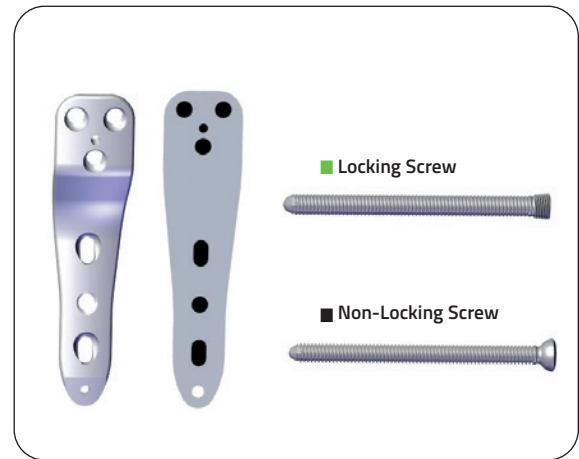

Fig. 5
**PRECAUTION:** Locking and non-locking screws must be used in the appropriate holes (Fig. 5).